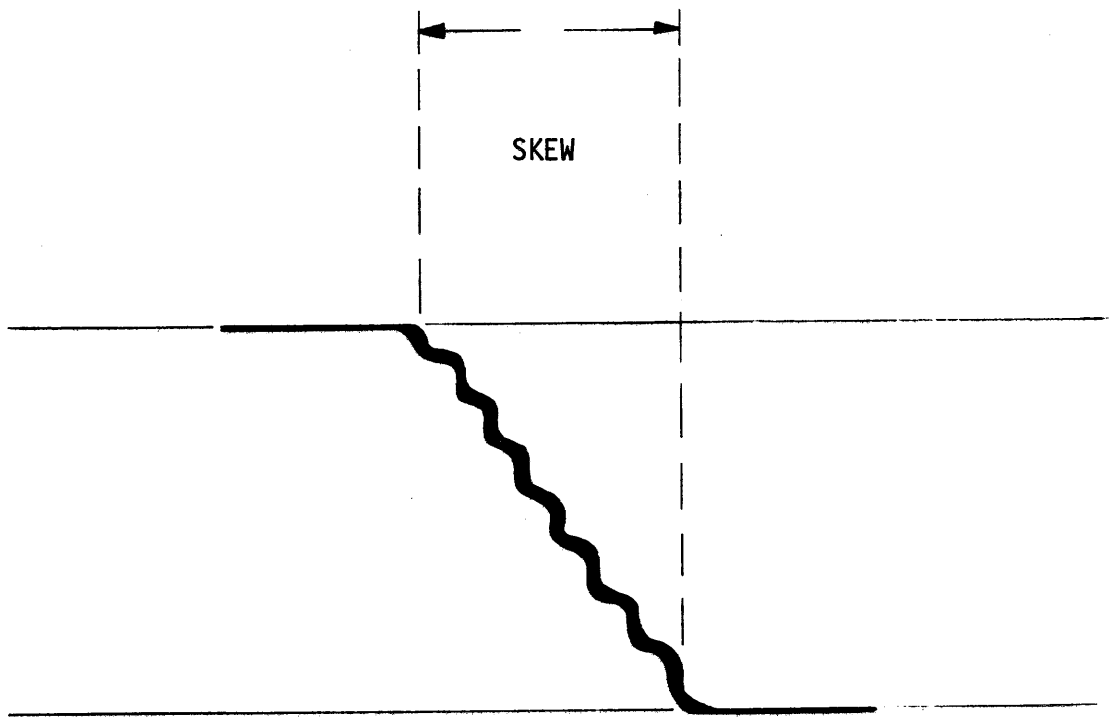

Figure 10-5, SKEW MEASUREMENT WAVEFORM
10.8.1 SKEW MEASUREMENT. To measure skew on any Digi-Data transport read an "all ones" tape and view the SKEW TEST POINT with an oscilloscope. The test point is TP 9 of the PA-16 card of "STP" on the RC-11 card; a convenient skew test point is also available on the maintenance card TC-12. The waveform indicated in figure 10-5 will be seen. When using the TC-15 a square low pulse will be observed rather than the "waterfall" in figure 10-5.